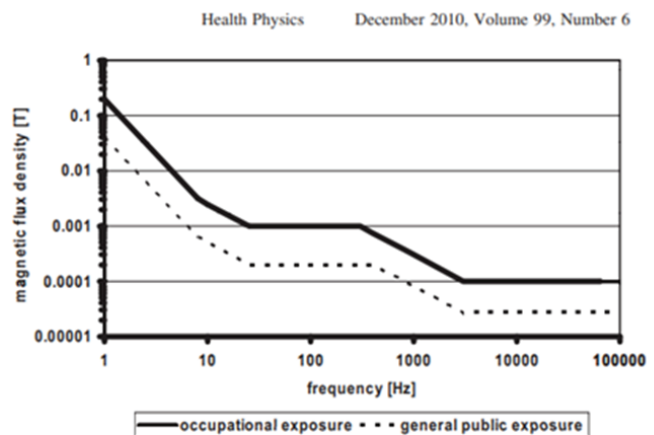

Figure 1: Reference levels for exposure to time varying magnetic fields.
- According to **Figure 1** extracted from ICNIRP standard, at 100kHz (magnetic field frequency of the wireless charger) the flux density from which the safety of human beings can be guaranteed is $27 \mu\text{T}$ for general public exposure and $100 \mu\text{T}$ for occupational exposure. We will refer to $100 \mu\text{T}$ for occupational exposure as a reference level.